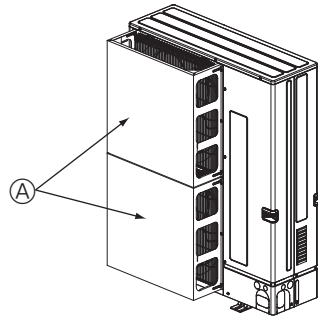

Fig. 2-5
② Install an optional air protection guide if the unit is installed in a location where strong winds from a typhoon, etc. may directly enter the air outlet. (Fig. 2-5)